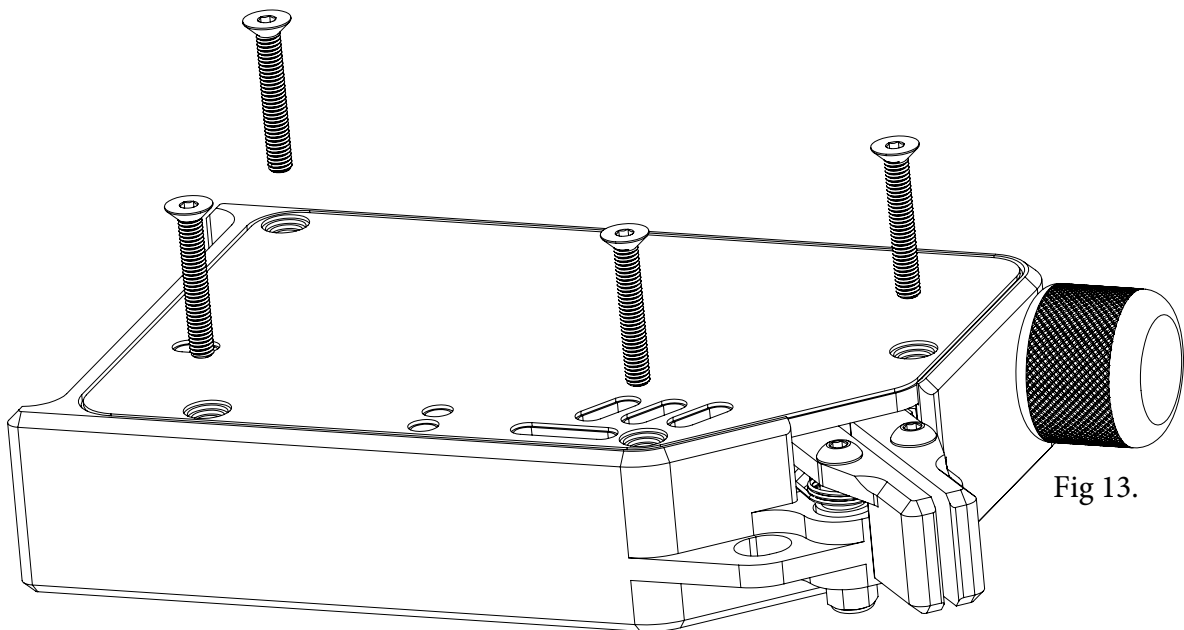

Fig 13.
13. *Installing the **Front Cover**:* Remove the protective cover on the LCD by peeling back on the green tab. Remove the protective film from the **Front Cover**. If there are any burrs they can usually be removed with a fingernail. Some **Front Covers** may have a little bit of oil on them from machining, if so, clean it off. The protective film can be used to pick up any dust on the **Front Cover**. Place the **Front Cover** onto the **Housing**. Use the four **Flat Head** screws to secure it. Don't overtighten the screws. (Fig 13.)